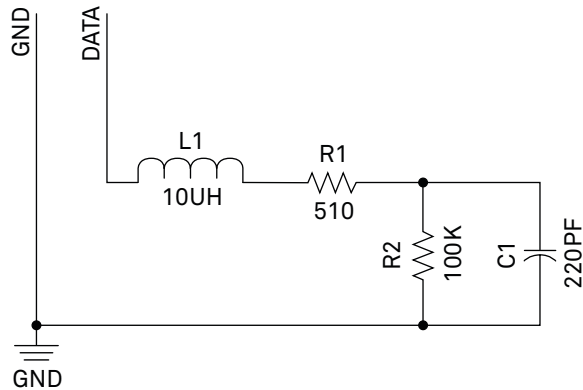
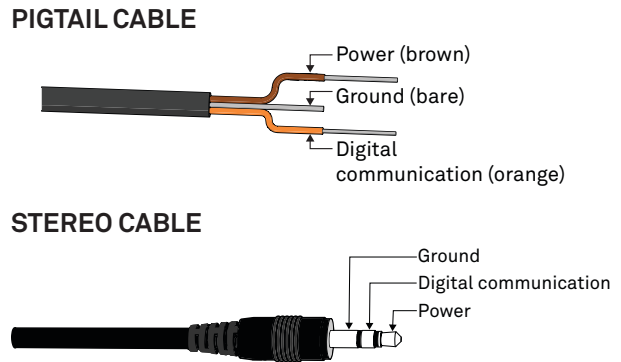

Figure 2 Equivalent circuit diagram
Figure 3 Connection types
Refer to Figure 2 and Figure 3 to connect the TEROS 32 to a data logger. Figure 2 provides a low-impedance variant of the recommended SDI-12 specification.
METER digital sensors feature a serial interface with shared receive and transmit signals for communicating sensor measurements on the data wire (Figure 3). The sensor supports two different protocols: SDI-12 and DDI serial. Each protocol has implementation advantages and challenges. Please contact Customer Support if the protocol choice for the desired application is not obvious.
METER sensors use a low-impedance variant of the SDI-12 standard sensor circuit (Figure 2). During the power-up time, sensors output some sensor diagnostic information and should not be communicated with until the power-up time has passed. After the power-up time, the sensors are fully compatible with all commands listed in the SDI-12 Specification v1.3. However, the TEROS 32 will not return measurements in response to continuous measurement (R) commands. M and C command implementations are found on page 7.